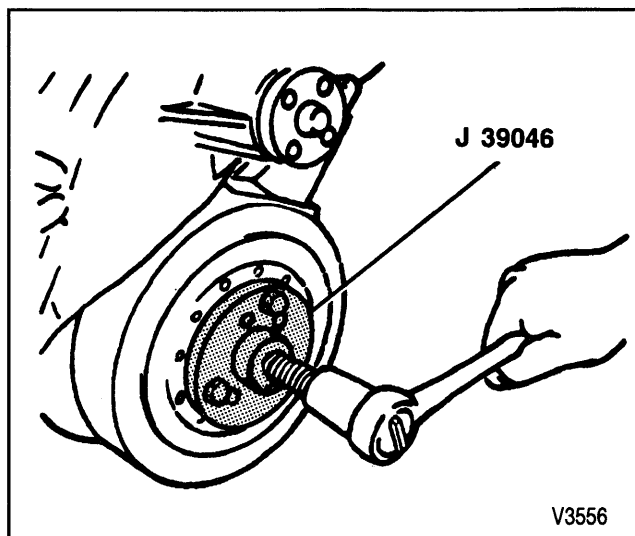

Figure 20—Removing the Torsional Damper
Remove or Disconnect (Figure 20)
5. Torsional damper. Use J 39046 (figure 20).